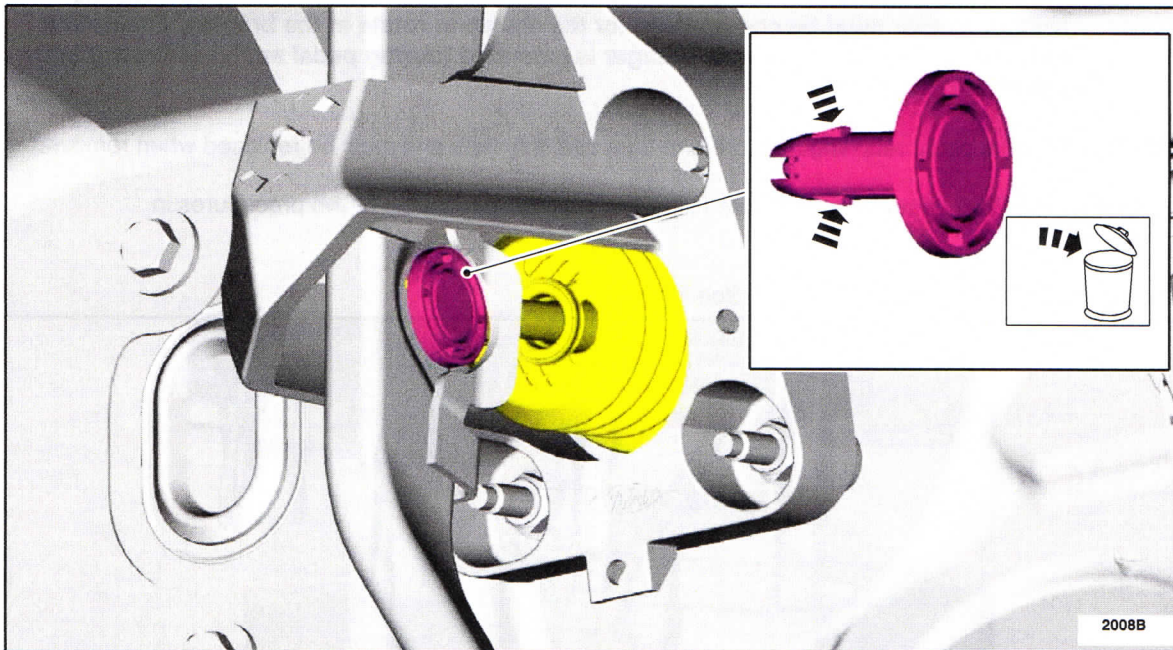

FIGURE 2
3. Remove and discard the booster push rod clevis-locking pin and position aside the booster push rod. See Figure 2.